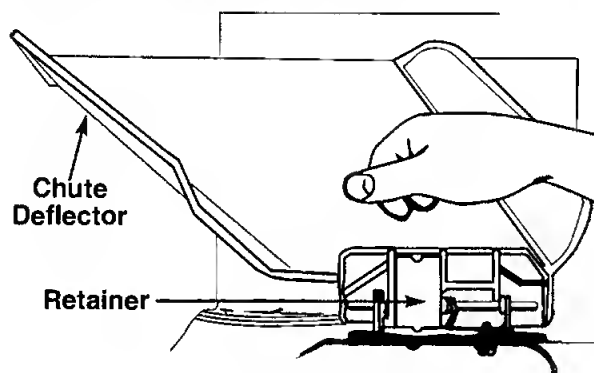

Figure 4
c. Setting up chute deflector (Figure 4)